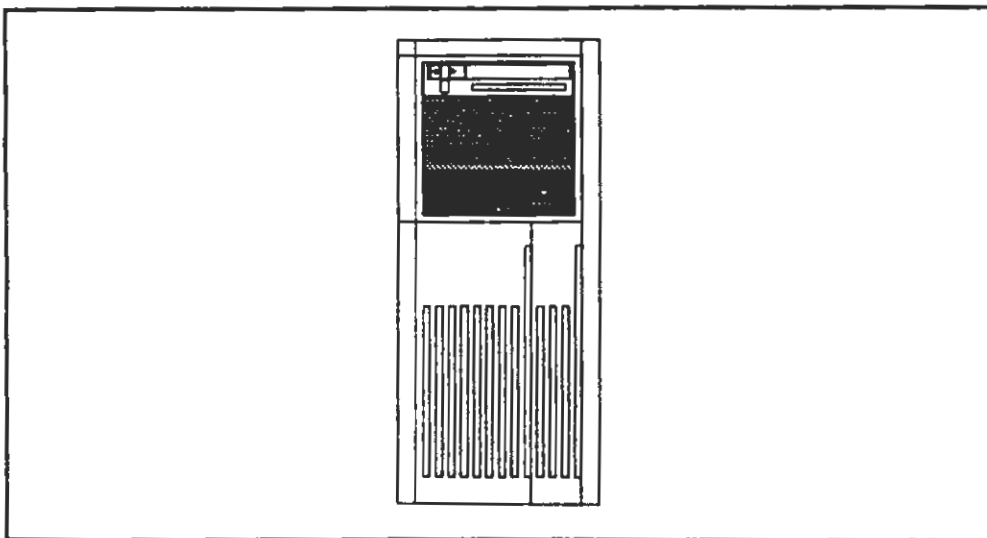

Figure 2. Front Cover
1. Remove the front cover by inserting a screwdriver in the front panel hole and turning the screw counter-clockwise. See Figure 2. Pull the top of the front cover forward and lift it away from the system.
3. Reinstall the front cover and secure the latch by turning the screw in the front panel clockwise until it is snug. See Figure 2.